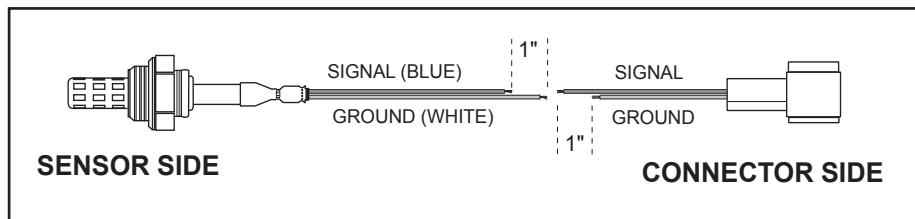

Fig. 1
6. With the two sensors laid out side by side, cut off the original sensor so overall length will be **1"- 2" longer than before**. (See Fig. 1) This will allow connections to be made at evenly spaced intervals so the heat shrink tube can fit over the butt connections and the finished overall length to match the original.